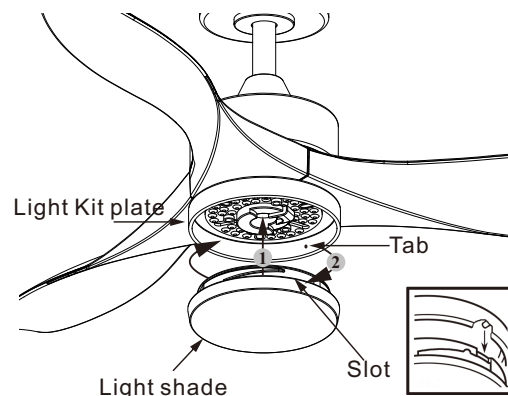

Figure 19
**Step 4.** Install light shade up against light kit plate and secure it to the fan by turning the light shade clockwise until snug. (DO NOT OVERTIGHTEN). (Fig.19)